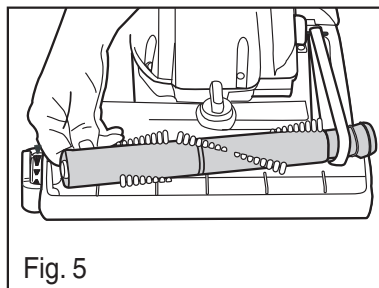

Fig. 5
5) Insert left end of brush roll first. Make sure square on brush roll cap is in place. Pull right side of brush roll to stretch belt. Secure right end cap into base (Fig. 5).